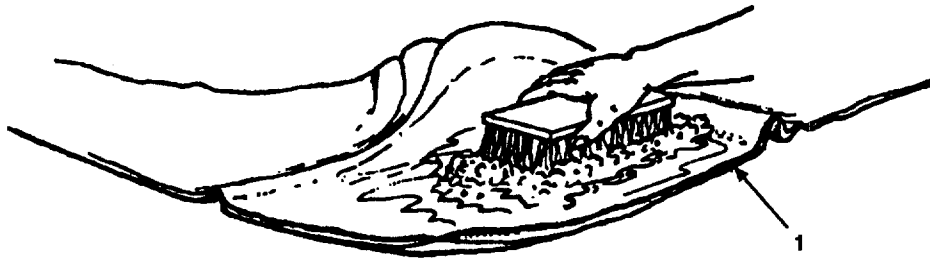

Figure 2-75. Cleaning of 36 Gallon Drinking Water Storage Bag.
- c. Scrub inside of each 36 gallon drinking water storage bag (Figure 2-75, 1) with solution prepared in step b.
- d. Rinse each drinking water storage bag (1) several times with potable water to get rid of all traces of cleaning solution prepared in step b. Do not use cleaning solution to rinse drinking water storage bags.